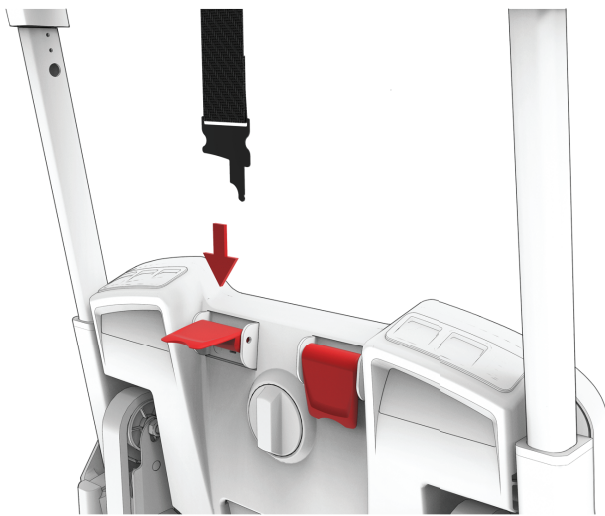
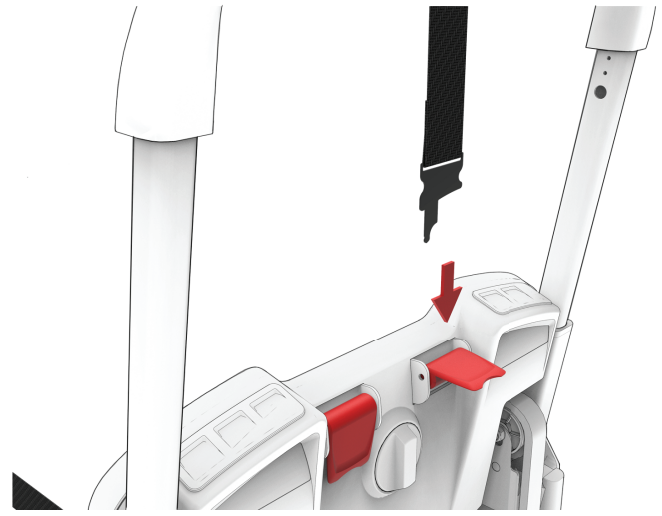

Figure 23 – Shoulder strap, patient left
Figure 24 – Shoulder strap, patient right
5. Wrap the patient right shoulder strap over the back of the chair and underneath the grab bar (Figure 23 and Figure 24). Lift the patient right PCS cam, then insert the shoulder clip through the PCS cam and pull through.